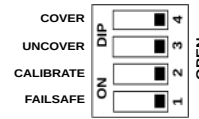

Figure 10: Cover Delay Switch Position
1. Ensure that all DIP switches are in OPEN position as shown in Figure 10. Make sure that STATUS LED is not blinking for Error.
- Ensure that all DIP switches are in OPEN position as shown in Figure 10. Make sure that STATUS LED is not blinking for Error.